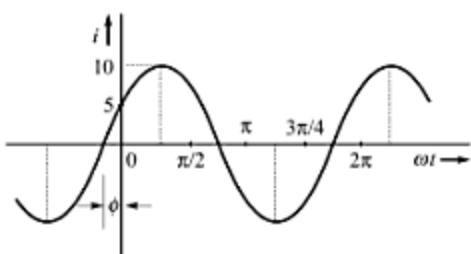

Fig. 9.25
**Solution** The current is 5 units at  $t = 0$  and is increasing in positive direction, hence the waveform would be as shown in Fig. 9.25. This is just a sine wave with a phase lead of  $\phi$ , having equation,  $i = 10 \sin(\omega t + \phi)$ .